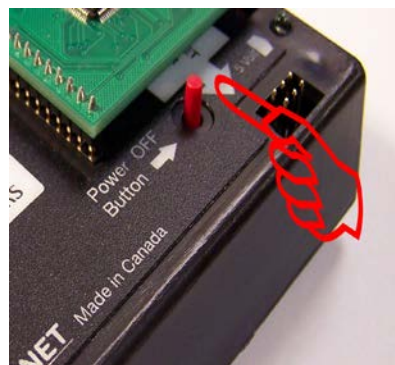

Figure 32 Power OFF Button
- The last step is critical; disconnect the power from the MC9S12XEP100 MCU. To do this press 'Power OFF' button located on the ETL HYPERF PROG (Figure 32).